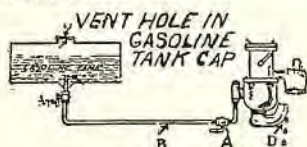

Fig. 1
The tank of a fuel system is always provided with a small hole, usually drilled through the filling cap, as at (V), Fig. 1, by which air may enter to replace the gasoline as it is drawn off. If this hole becomes clogged with dirt, the gasoline in flowing out will tend to create a vacuum, and the flow will stop.
If gasoline fails to flow to the carburetor, see that (V), Fig. 1, is open. If this is open, then examine the filter screen at the bottom of the tank. If this is open, then remove pipe (B) and blow it out. If this is open, then take the carburetor apart and see if it is clogged up with waste or sediment.